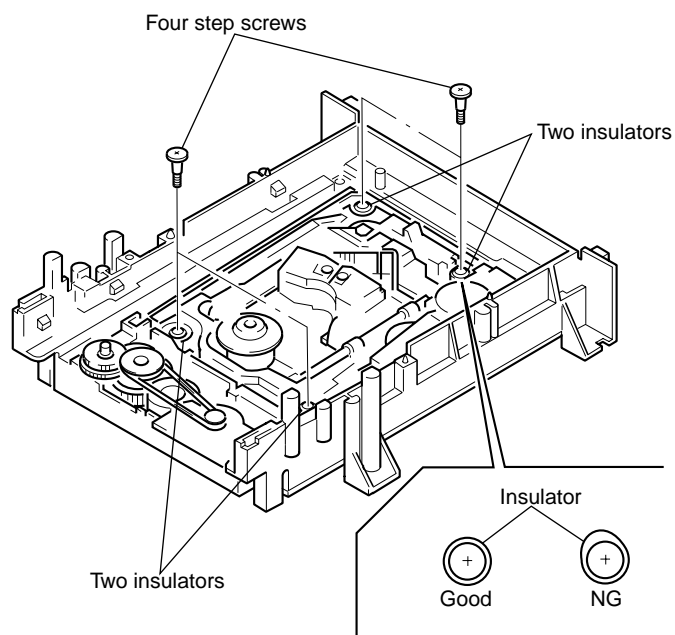

Fig. 11
- 2) Lock with 4 shoulder screws. (See Fig. 11)
- 3) Check if 4 insulators deformed. (See Fig. 11)